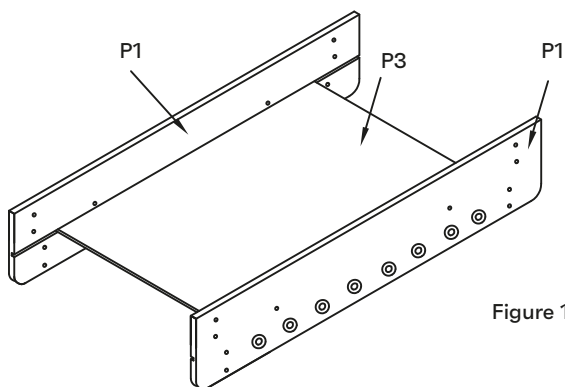

Figure 1
1. Slide playfield P3 into the groove on the side panels P1 with graphics facing down. See figure 1.